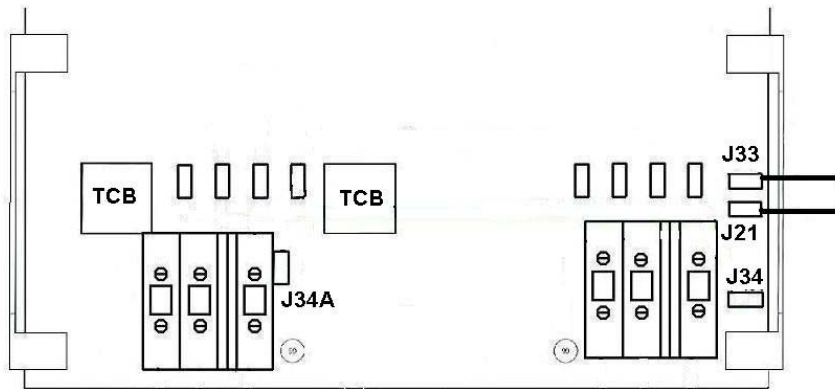

Figure 5: Output neutral grounding
2.4. Output neutral grounding (fig 5)
A Residual Current Device (RCD) or Ground Fault Circuit Interrupter (GFCI) must be installed in the output cable of the isolation transformer. For this RCD to operate correctly, the output neutral must be connected to ground (= all the metal parts in the boat). This is achieved by placing a jumper on male push-on connectors J21, J33 (see fig 5), and by grounding the enclosure of the isolation transformer.